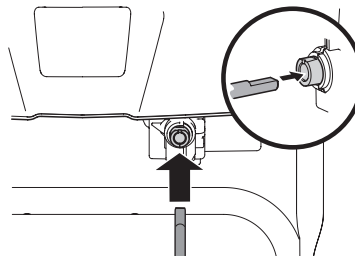

Figure 2-25
- Units with Electric Chute Control - Insert other end of flex shaft into chute control rod coupling under dash panel. Make sure to line up flat end of rod and flat end of coupler. You may need to rotate rod around until these two surfaces line up. See Figure 2-25 inset.